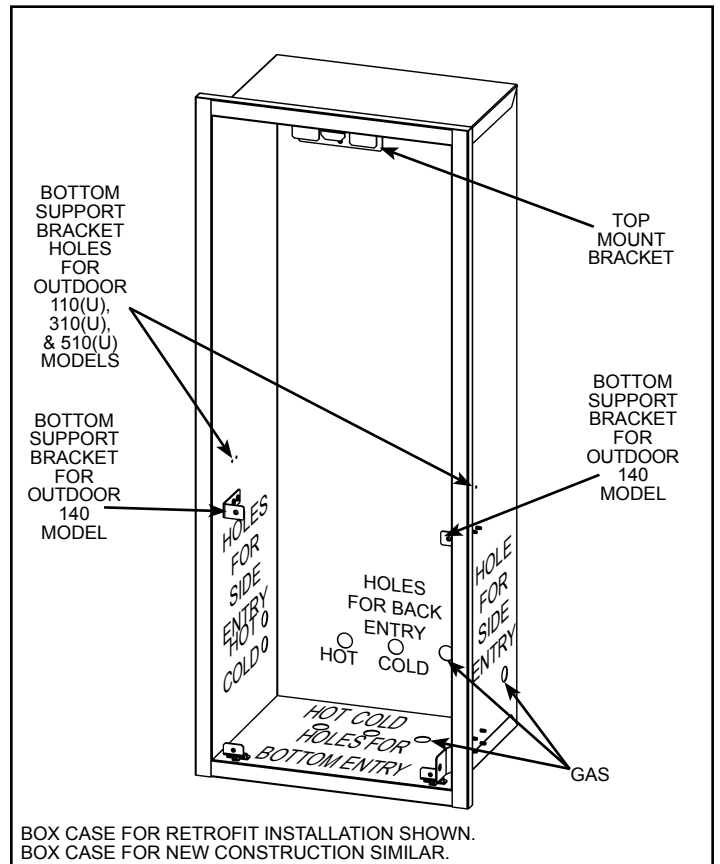
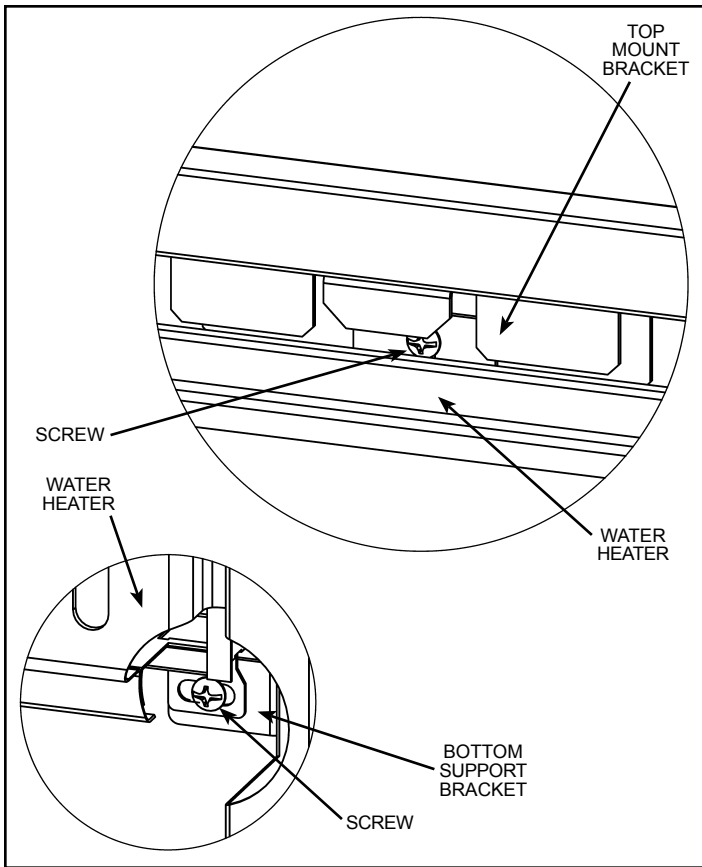
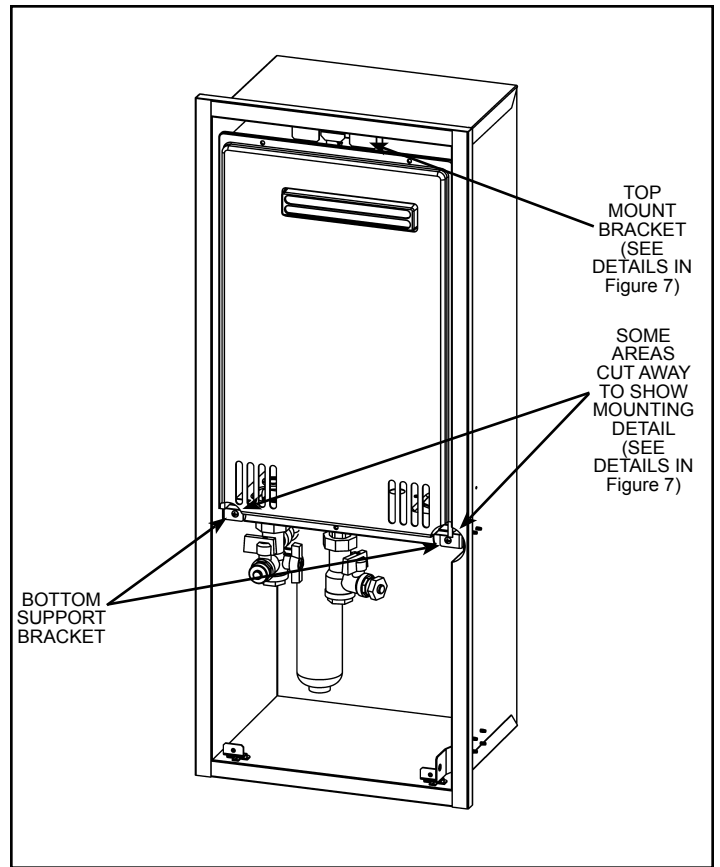

Figure 6.
Figure 7.
Figure 9.
3. Use a step bit or metal hole saw to drill holes for the water lines, gas line, pressure relief valve discharge line, and electrical supply. Holes for the water and gas lines must be able to fit 3/4" lines (see Figure 6). Recess boxes for mounting Model 140 heaters will also require a hole for the condensate drain line. Hole locations shown in Figure 6 are suggested locations only. Actual hole locations must be suitable for each individual installation.
1. Install the bottom support brackets (Item #3) using two screws (Item #4) into the appropriate set of holes for the heater that is being installed (see Figure 6).
- a. for Models 110(U), 310(U), and 510(U) use the upper set of holes
- a. For 140 model: Use screws (Item #6) to secure the heater to the top mount bracket and the bottom support brackets (see Figure 7 and Figure 9).